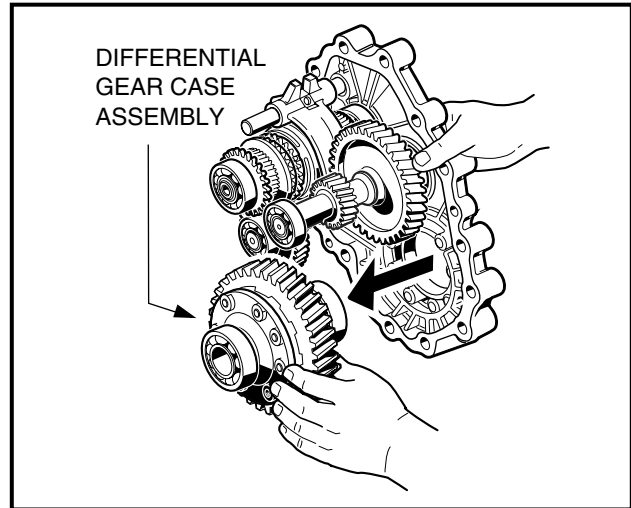

Figure 6-7 Remove Differential Gear Case
8. When all the gear assemblies are slightly loosened, remove the differential gear case assembly by gently rocking it while pulling it from the case (**Figure 6-7, Page 6-5**).